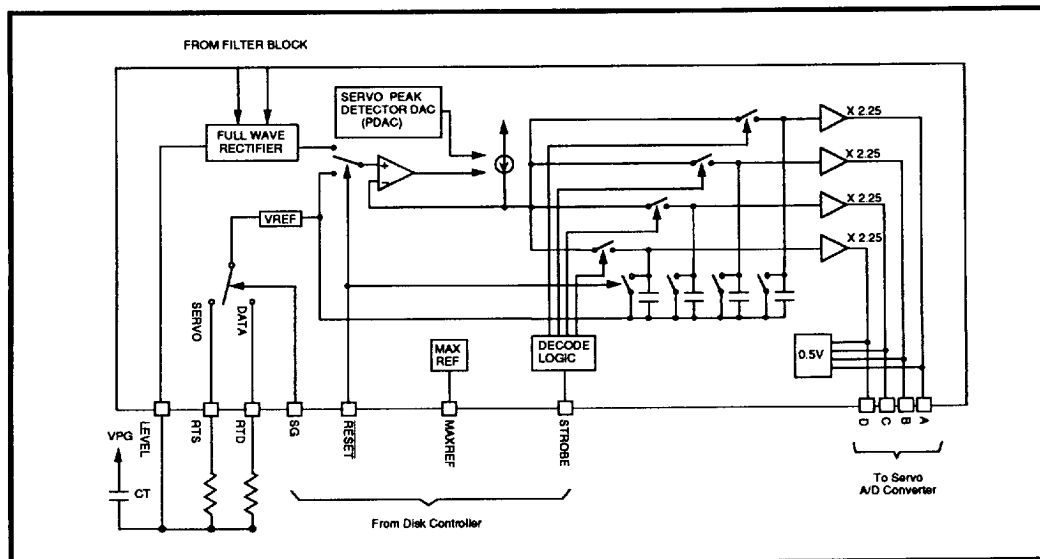

FIGURE 6: 32P4742/4742A Servo Capture
The 32P4742/4742A servo sections capture four separate servo bursts and provide A, B, C, and D burst outputs, Figure 6. Internal burst hold capacitors are provided to support low leakage burst capture and reduce external component count. To support embedded servo applications, the 32P4742/4742A provides additional programming registers that set the filter cutoff frequency (f_c) and the hysteresis threshold level (V_{TH}) for servo mode. The programmable functions are switched automatically when the servo gate (SG) is asserted, reducing the transition time between mode changes. When SG is activated or deactivated there is a nominal 0.3 μ s settling time for the internal DACs to recover from the register switching.